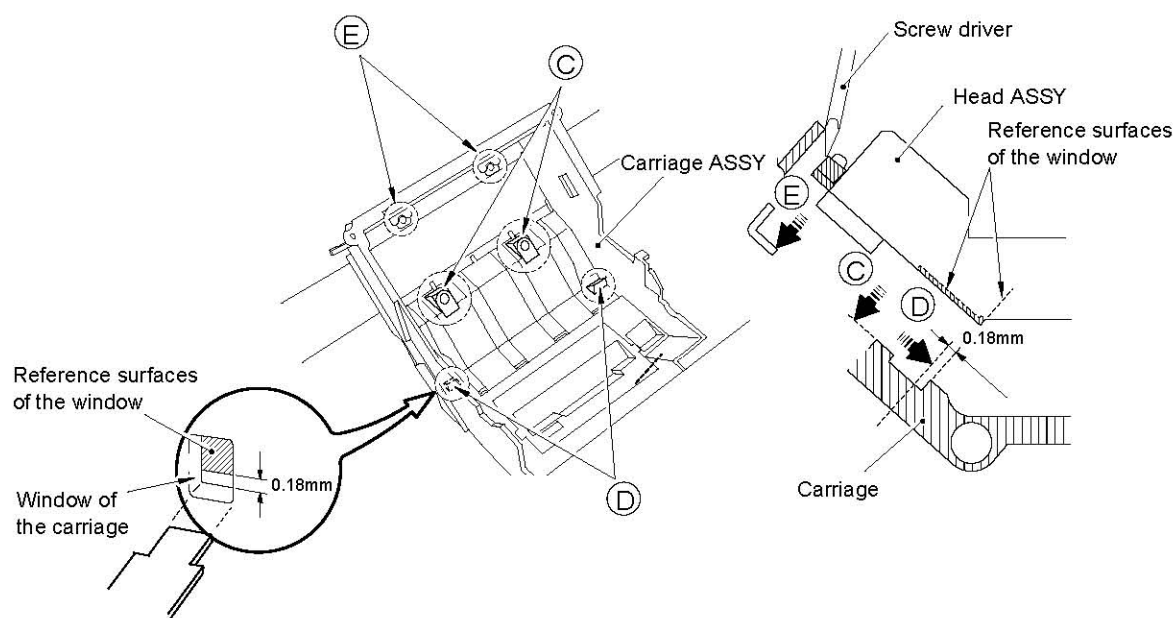

Fig. 4.70
- (1) Put the Gap spacer on the Carriage ASSY. As shown in fig. 4.70, place the Head ASSY on the Carriage ASSY to keep the 0.18 mm gap between the Head ASSY and the reference surface.